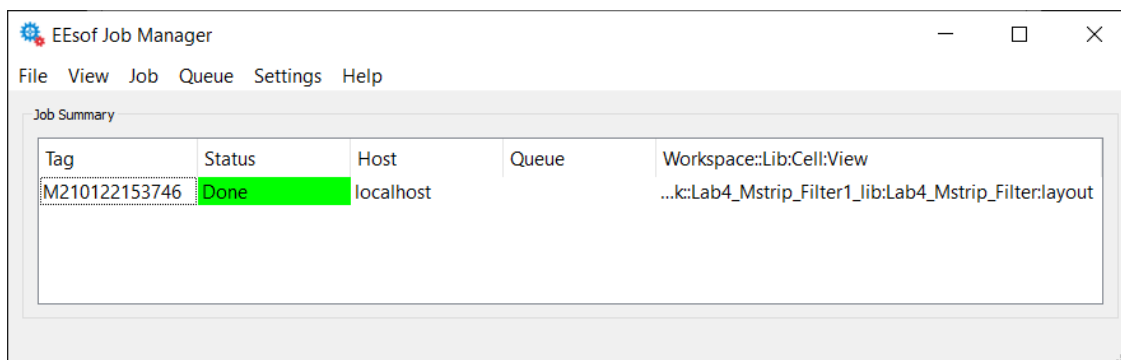
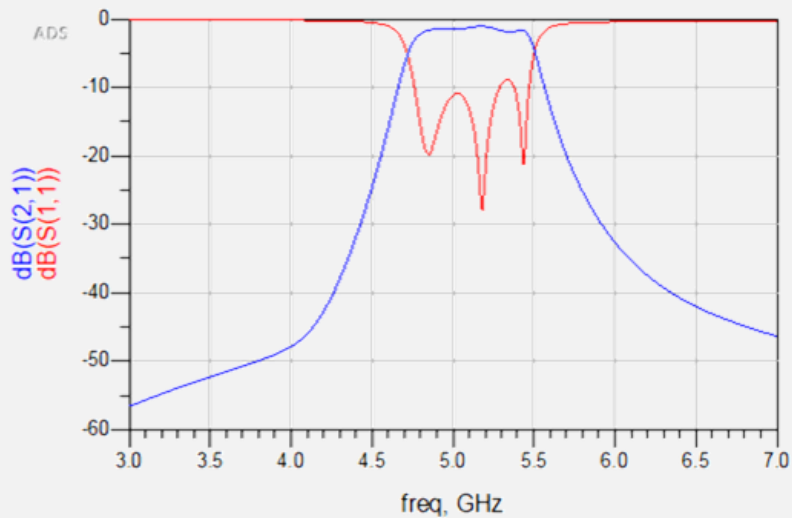

Figure 20. View Jobs in Job Manager
Figure 22. Graph of Momentum Simulation
- a. Job Manager window (Figure 20): Displays simulation job status. Its status turns to “Done” once the simulation is finished. A completed simulation is shown in Figure 22.
11. The Momentum simulation data display will open automatically. Delete all the graphs and insert a new rectangular graph. Select  $S(1,1)$  and  $S(2,1)$  to be plotted in dB. The simulation results are shown in Figure 22.